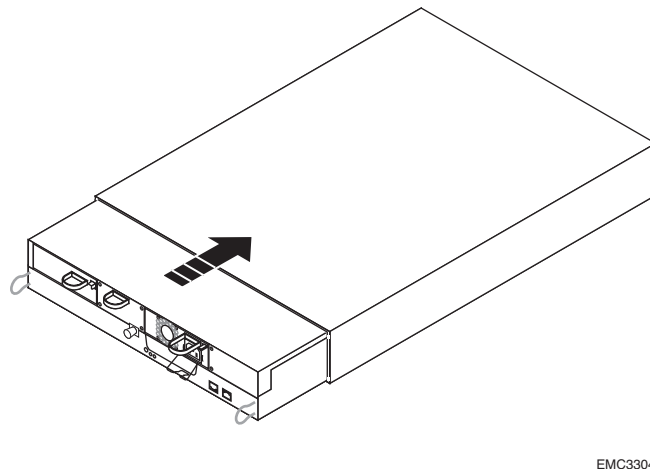

FIGURE 5. Installing the SSR212PP-Series SP Assembly in the Chassis
STEP 1. Slide the SP assembly into the storage-system chassis (Figure 5).